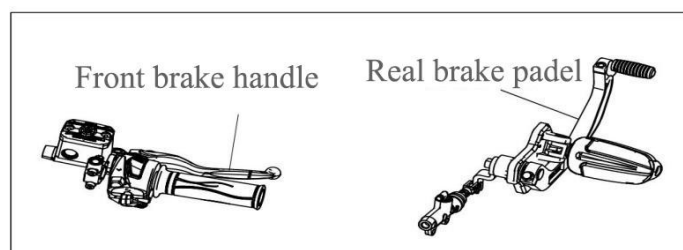

Figure 15 Brake position diagram
**5.4.2 Climbing or turning driving (Figure 15)**